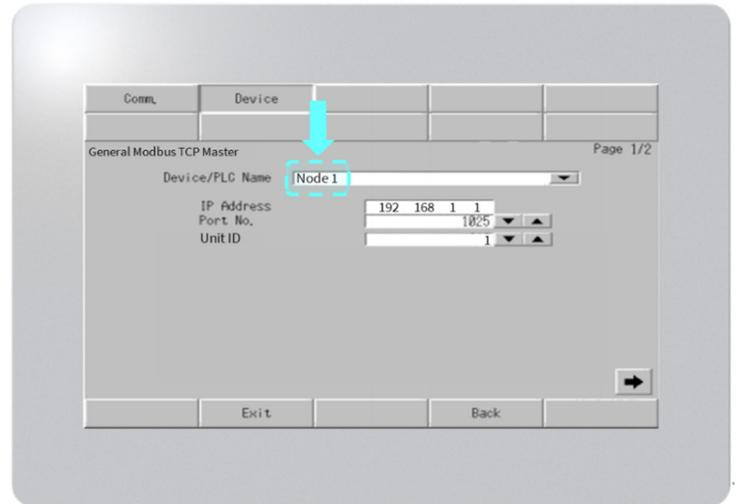

FIGURE 4-11 OFFLINE MENU
1. In the **Device Settings Menu**, select the drop-down menu to select the Node that has had the Ethernet Settings changed (**Figure 4-11**).